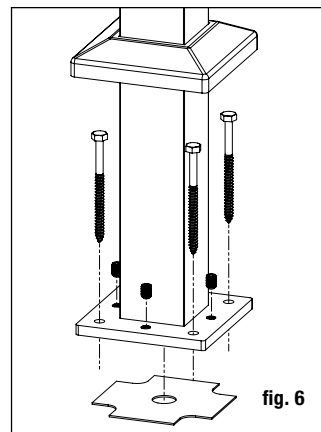

fig. 6
**Step 4** Reposition the post assembly with the leveling plate inserted between the deck and the post base, and aligned with the predrilled holes. Insert the post fasteners (**NOT INCLUDED**), and partially tighten. Using a level, adjust the leveling set screws with a 3/16" allen wrench until the post is plumb. Fully tighten the post fasteners to secure the base to the deck structure. *Note: Recommended 5/16" x 4" or longer lag screws* (fig. 6).